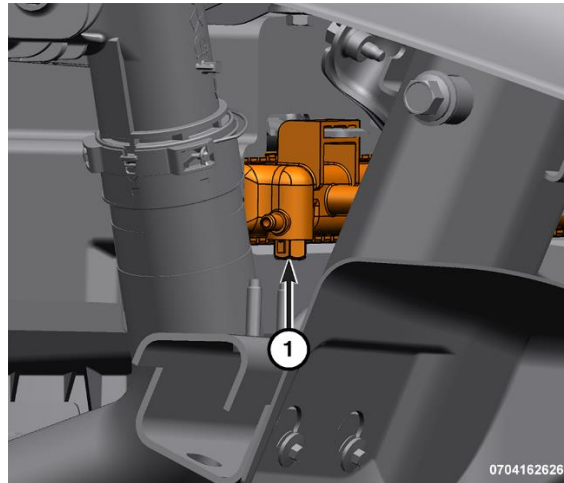

Figure 2 – Radiator Draincock
6. Open radiator draincock (1) located at the lower left side of radiator. Turn draincock counterclockwise until it stops and allow to drain (Figure 2).